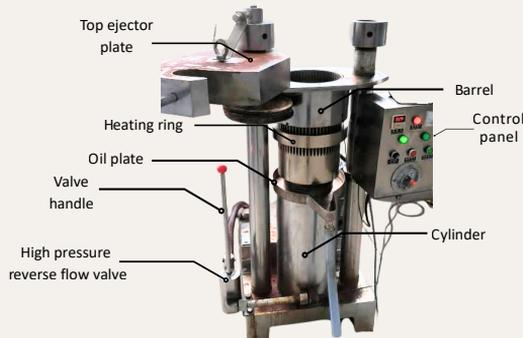

Figure 2.2: Hydraulic oil press with top ejector plate opened.
4. Open the top ejector plate of the press based on Figure 2.2.